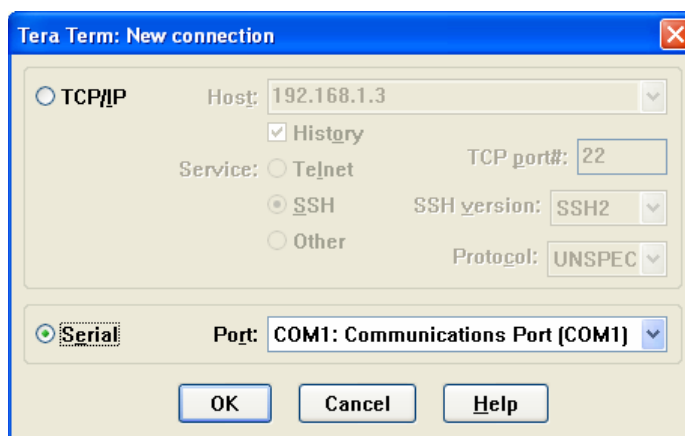

Figure 6-24: Selecting a Serial Connection
18. Select the **Serial** radio button, then click **OK** (Figure 6-24).